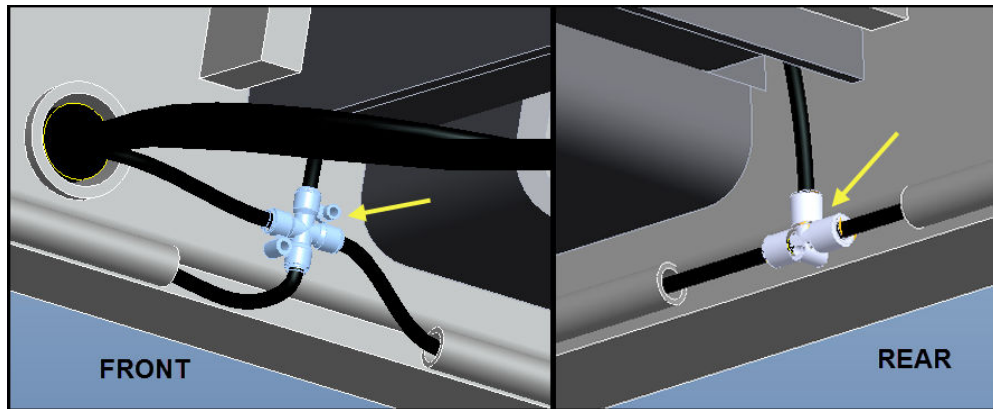

Figure 22. Air Connections
2. Connect the 1/4" polytube from the hose guard (i.e. supply line) to the 1/4" pushlock cross at the front of the left side deck assembly. Connect the opposite end to the FRL assembly. **See figure 22 & 24.**
3. At the rear of the lift, connect the 1/4" polytube from the deck to the crossmember polytubes using the tee fitting. **See figure 22.**